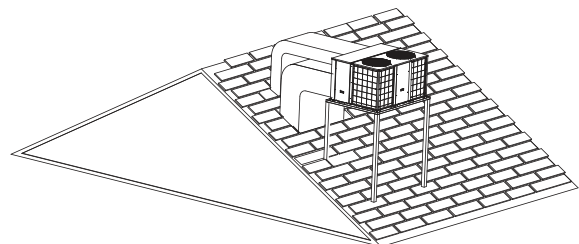

Fig.5-2
- Typical rooftop application with frame. ((See Fig. 5-2)